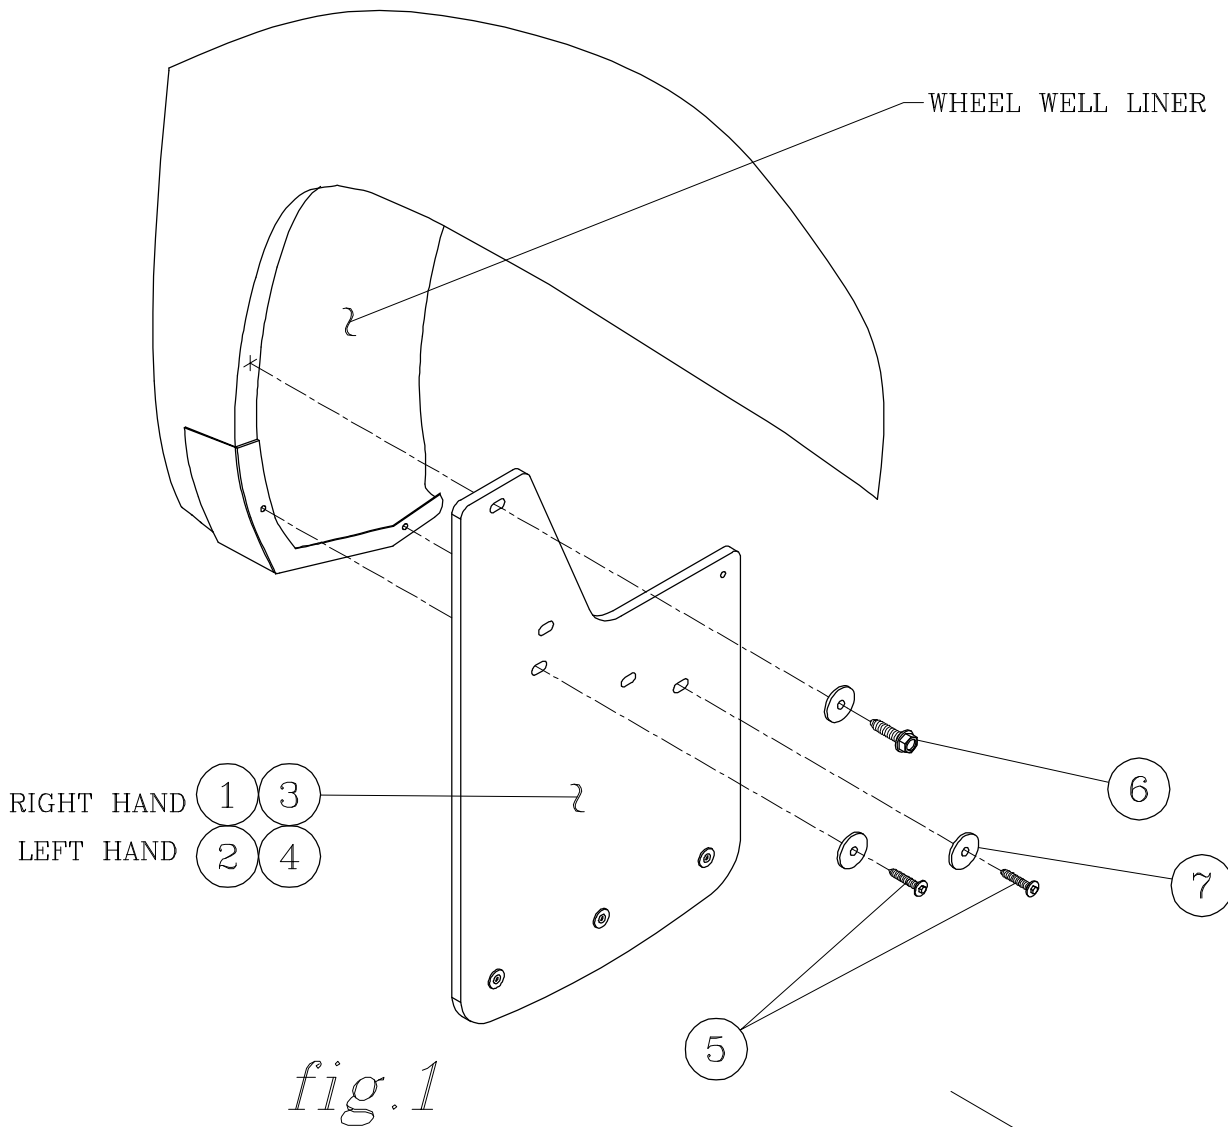

fig. 1
- 2.2 POSITION THE SPLASH GUARD AGAINST THE WHEEL WELL FLANGE AND INSTALL TWO HEX HEAD SEMS SCREWS WITH FENDER WASHERS (ITEMS #5,7) THRU THE TWO LOWER HOLES AS SHOWN IN FIG. 1. AND TIGHTEN DOWN.